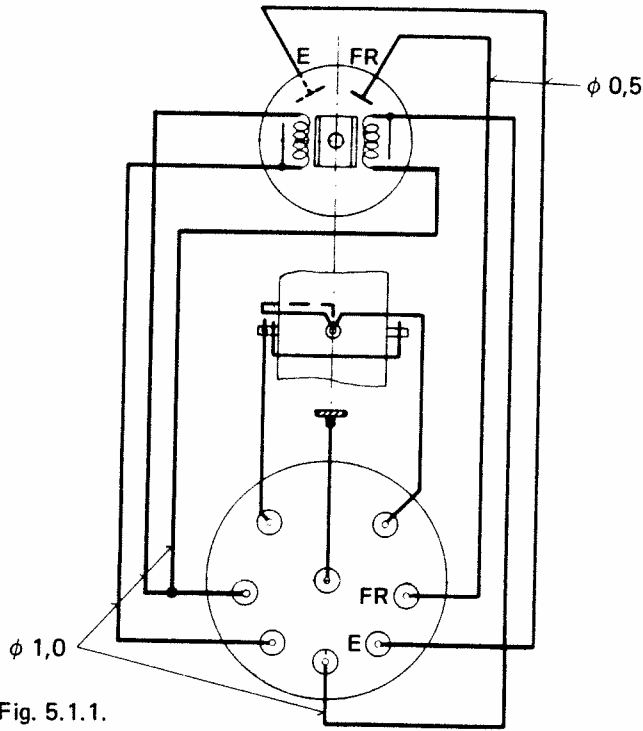

Fig. 5.1.1.
- 5.1.1. Connect the wiring as delivered to the corresponding feedthrough terminals as shown in Fig. 5.1.1.